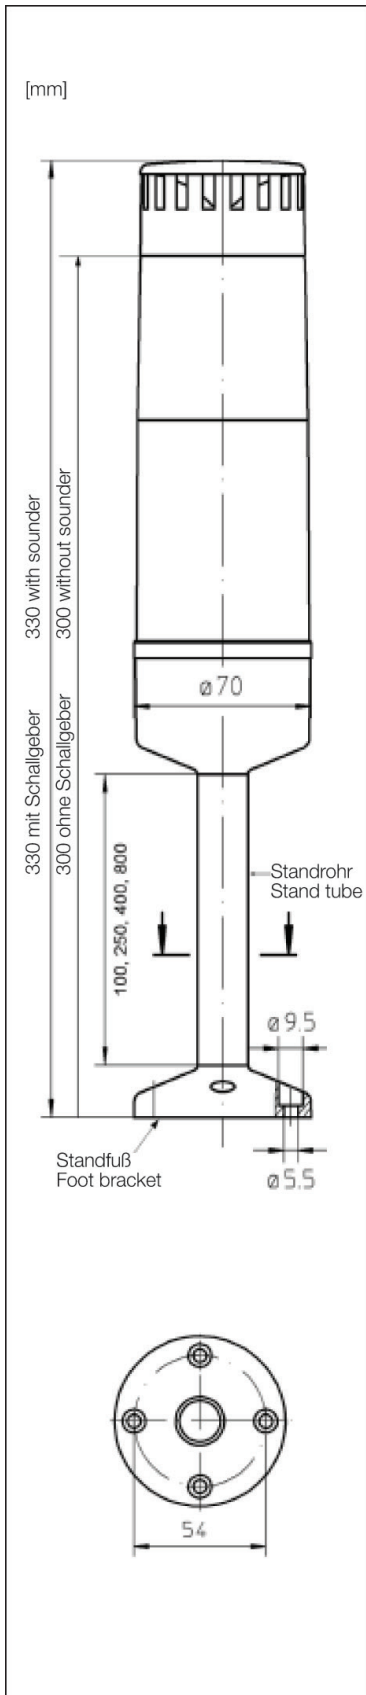

Figure 4. Dimensions
2. Fasten the foot bracket at the intended location by inserting 4 screws through the bores in the foot bracket. For bore dimensions see drawing (Fig. 4).